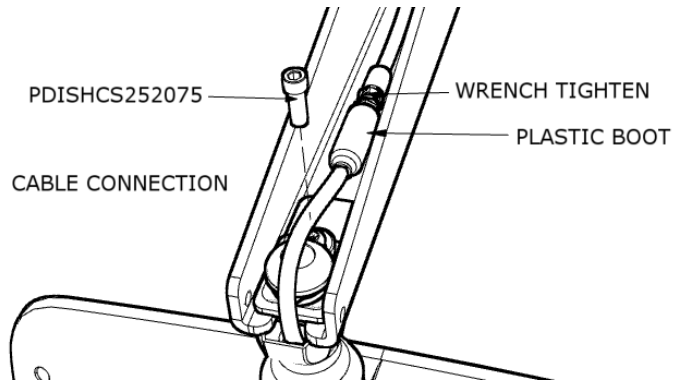

Fig. 2
2. Secure PDISHCS252075 bolt with a 5/32" allen wrench and make coax cable connections as shown in Fig. 2